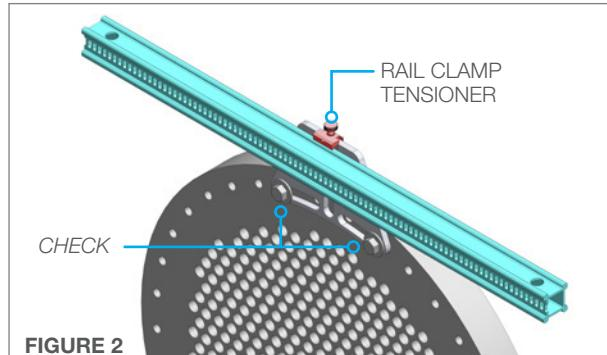

FIGURE 2
2. Loosen the **Rail Clamp Tensioner** on the top **Positioner Clamp** and insert the **Top Rail (slots facing out)** into the upper rail clamps. Tighten the **Rail Clamp Tensioner** securing the rail to the **Positioner Clamp**. Check Rail Clamp bolts to ensure they are secured to the tube bundle flange. (**Figure 2**)